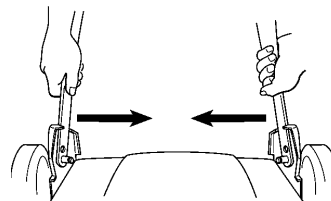

Figure 27
1. Push in the right bottom handle section until the handle slides past the stops on the handle brackets (Fig. 27).